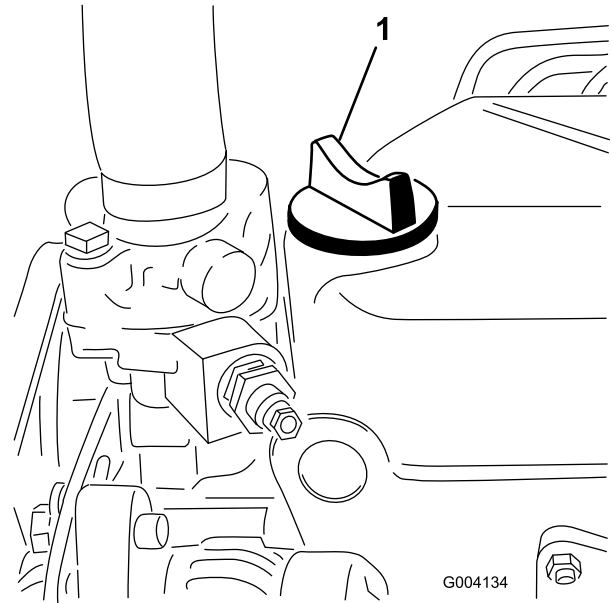

Figure 52
5. If the oil level is below the FULL mark, remove the fill cap (Figure 52), and add oil until level reaches the FULL mark on the dipstick.